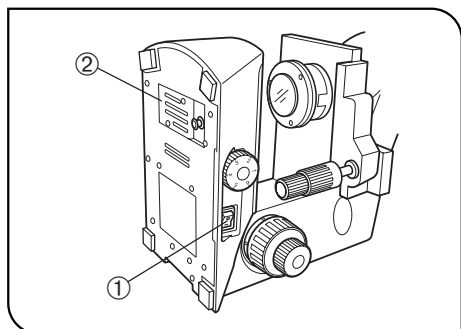

Fig. 1
2. To avoid potential shock hazards and burns when replacing the lamp bulb, set the main switch 1 to “○” (OFF) then disconnect the power cord from the wall outlet in advance. Whenever you replace the bulb during use or right after use, allow the lamp socket 2 and bulb to cool before touching. (Fig. 1)